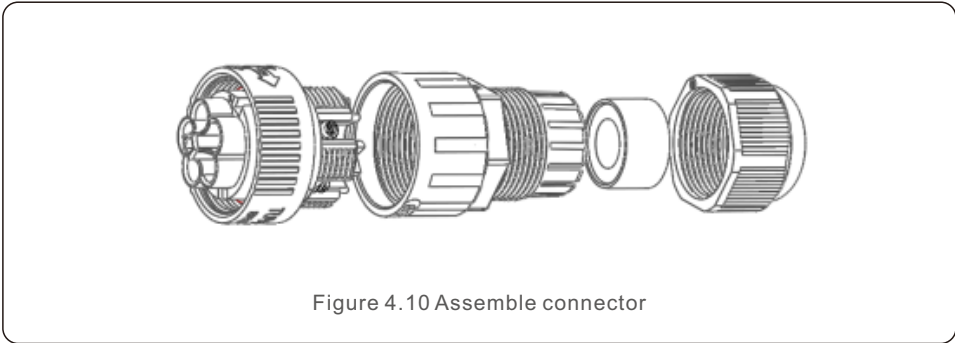

Figure 4.10 Assemble connector
- e. Assemble the connector (see Figure 4.10)